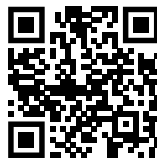

Fig. 148
- Aprire la Liebherr SmartMonitoring Dashboard. (vedere Fig. 148)